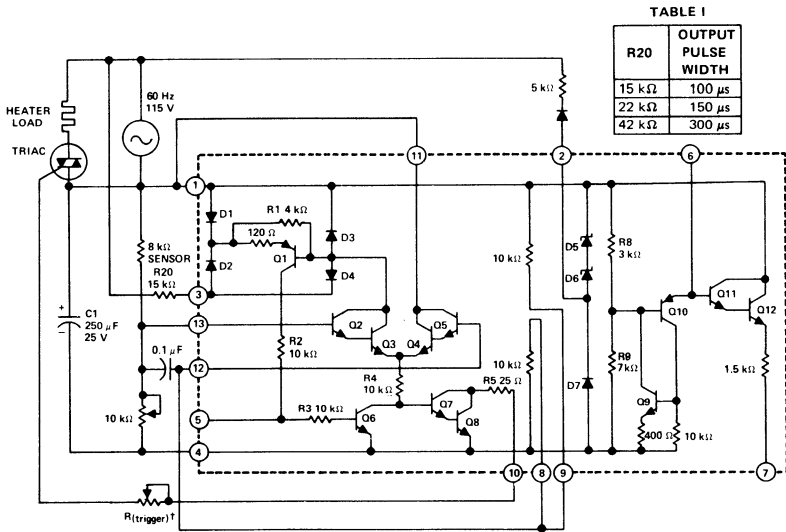
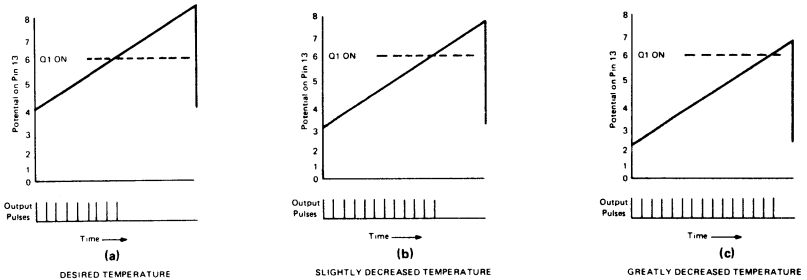

FIGURE 1—ON-OFF HEATER CONTROL
FIGURE 2
- NOTE 5: This is the voltage across an electrolytic capacitor connected between pins 1 and 4 whose charge is maintained by the a-c line voltage. See Figures 1 and 3.
The circuit shown in Figure 1 provides on-off temperature control. Electrolytic capacitor C1 maintains the d-c operating voltage. Since the series combination of D5 and D6 is in parallel with the series combination of C1 and D7, the voltage developed across C1 is limited to approximately 12 V. Because the energy to fire the triac comes from C1, the voltage across pins 1 and 4 will fluctuate as the triac fires. If a more stable operation of the circuit is desired, a 12-volt d-c supply should be connected between pins 1 and 4 in lieu of C1. The temperature sensor must have a negative coefficient in this circuit.
The circuit shown in Figure 3 provides proportional control of a heating system. With the exception of the saw-tooth generator, the circuit of Figure 3 functions the same as that of Figure 1. The sensor of Figure 3 has a negative temperature coefficient.
At the start of the saw-tooth waveform the base of Q1 is high and output pulses occur at pin 10. As the desired temperature a certain number of output pulses occur during each saw-tooth cycle as shown in Figure 2(a). At a slightly decreased temperature the resistance of the sensor increases, lowering the d-c potential of pin 13. This lowers the potential of the entire saw-tooth waveform as shown in Figure 2(b) which causes a few more output pulses to occur. At greatly decreased temperatures many more pulses occur each saw-tooth cycle as shown in Figure 2(c).
Similarly, increases in temperature cause proportionately fewer output pulses than the normal number of Figure 2(a). Thus the proportional control feature allows a smoother control of temperature in this application by always providing output pulses during some portion of the saw-tooth generator cycle as opposed to the "full on/full off" circuit of Figure 1.